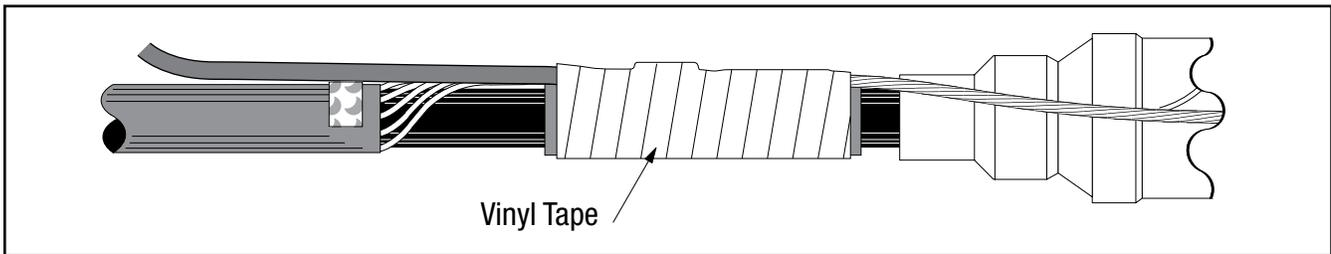

Figure 6
3.5 Overwrap the ground wire connectors with vinyl tape (Figure 6).